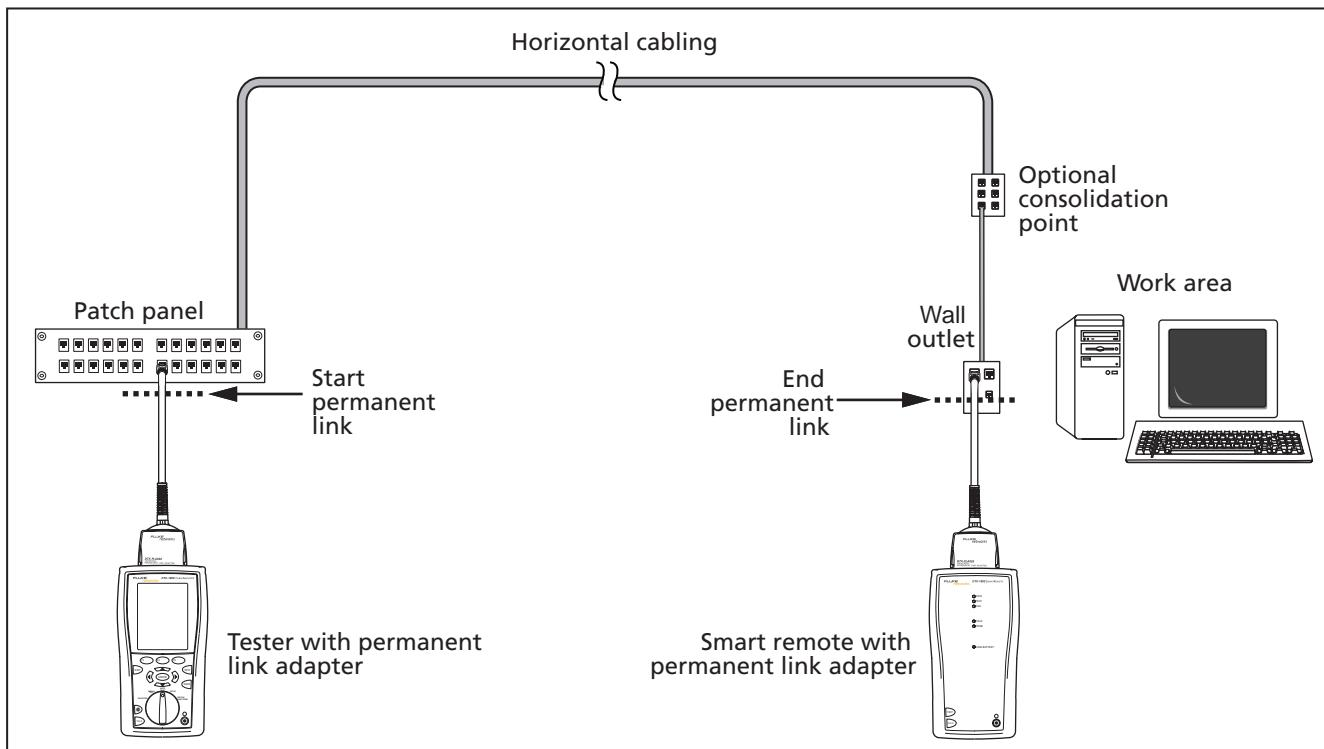
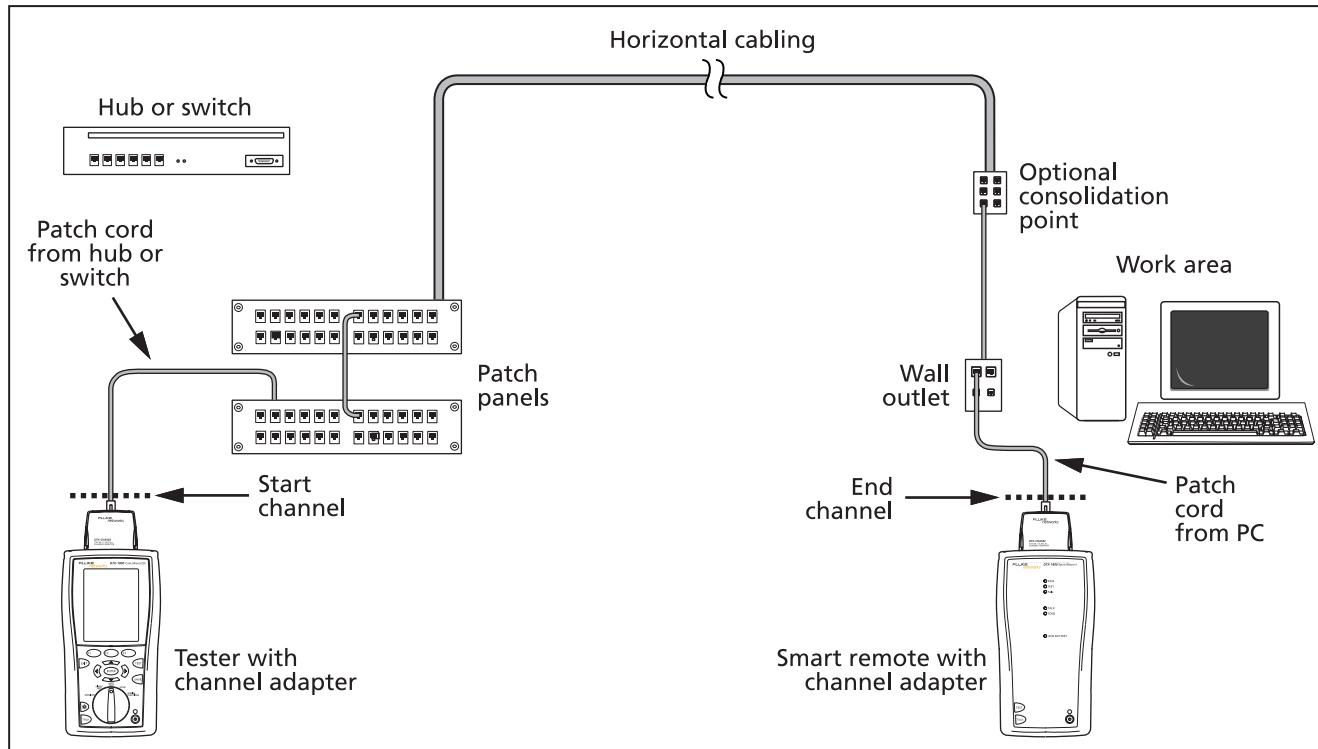

Figure 12. Permanent Link Test Connections
Figure 13. Channel Test Connections
- 3 Turn the rotary switch to **AUTOTEST** and turn on the smart remote. Connect to the cabling, as shown in Figure 12 for a permanent link or Figure 13 for a channel.